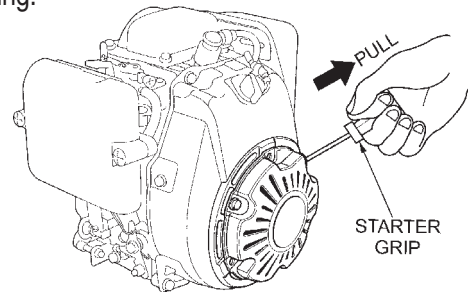

Figure 8. Recoil Starter
6. If engine fails to start, move the choke lever (Figure 8) to the half open position to avoid flooding.